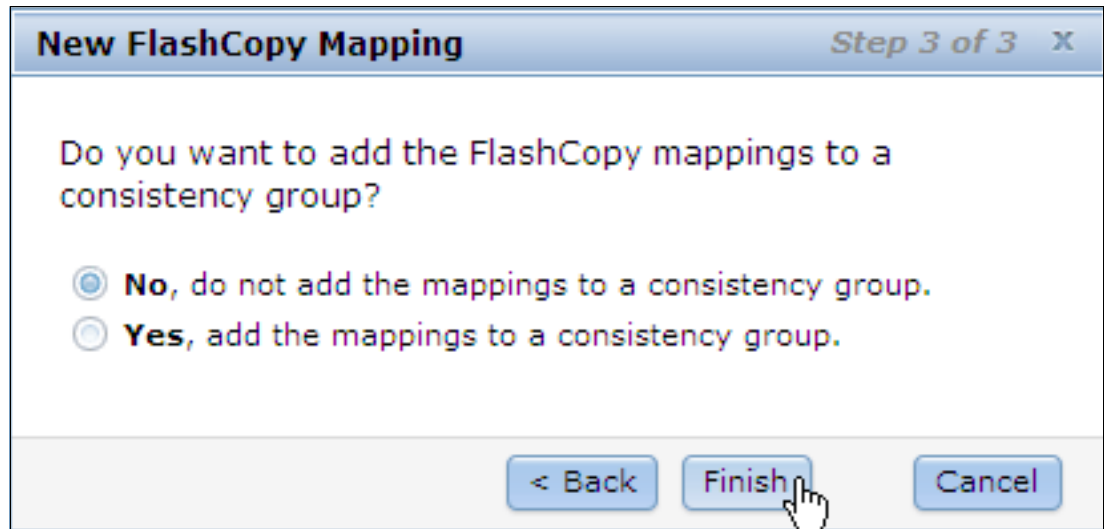

Figure 3-93 Step 3 of the New FlashCopy Mapping wizard
3. The new FlashCopy mapping can be added to a consistency group. Choose whether this mapping is grouped and click **Finish**, as shown in Figure 3-93.